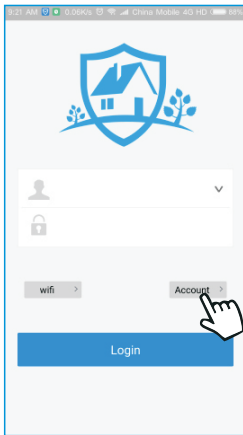
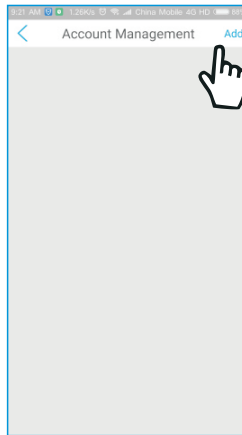
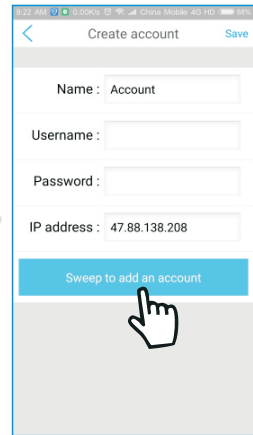

Figure 8-1
Figure 8-2
Figure 8-3
B. Click "Account" - "Add" - "Sweep to add an account" - "Scan QR Code of panel"; (as shown in Figure 8-1, Figure 8-2, Figure 8-3, Figure 8-4)